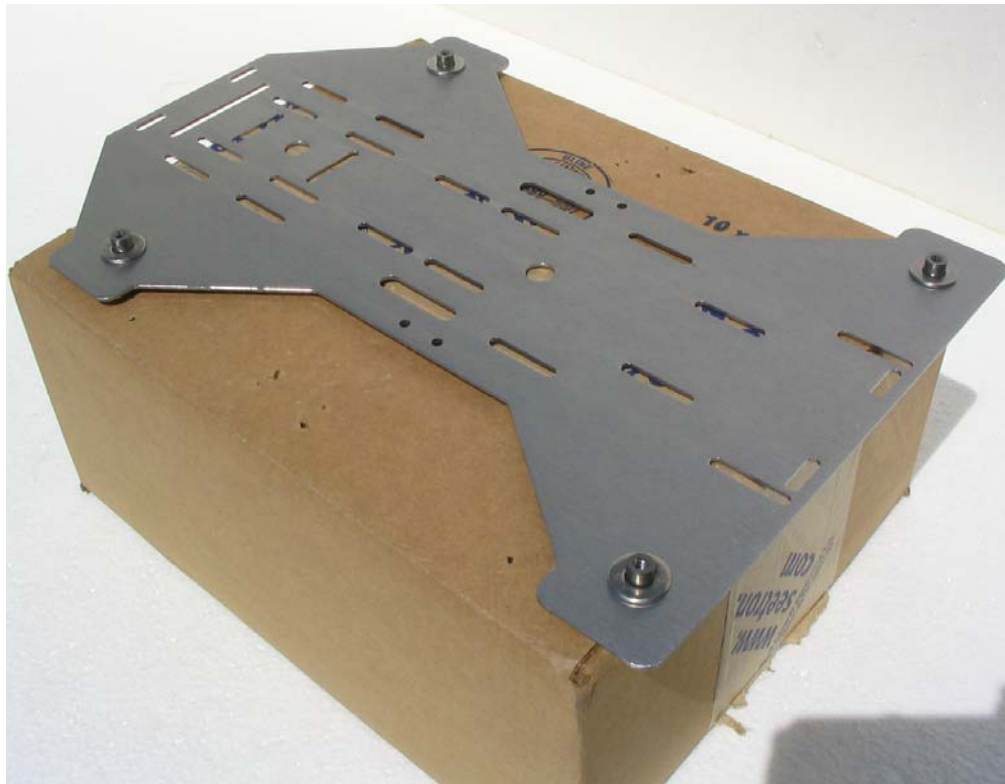

Figure 38
1. In order to properly attach the upper deck assembly to the lower deck assembly, you will need to place the lower deck assembly onto an elevated platform. A pile of books or a box that is slightly wider and longer than the lower deck assembly will work fine. The height of the books or box combined should be greater than 3.5" to 4.00" inches (See figure 38). This height will allow for clearance of the legs when attaching the upper and lower deck assemblies together.